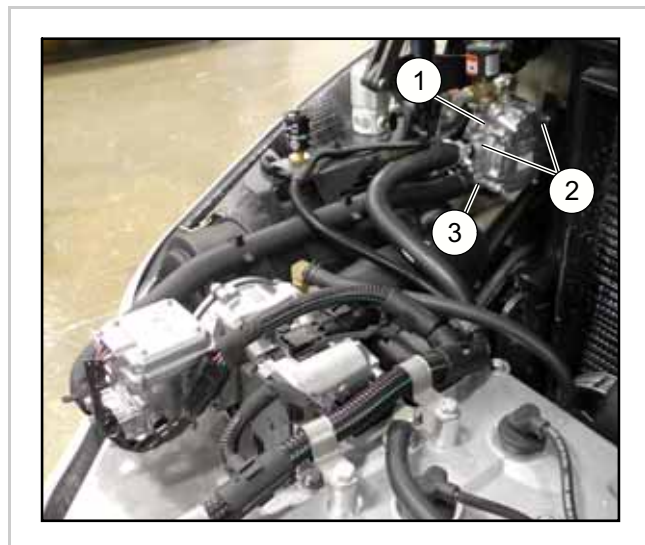

Fig. 8 (32496)
See Figure 8. LP fuel enters the end of the vaporizer that functions as a heat exchanger (1). The heat from the engine coolant that flows through the housing (2) is used to change the LP fuel into vapor. The LP fuel vapor is then supplied to the EPR through the outlet port (3).